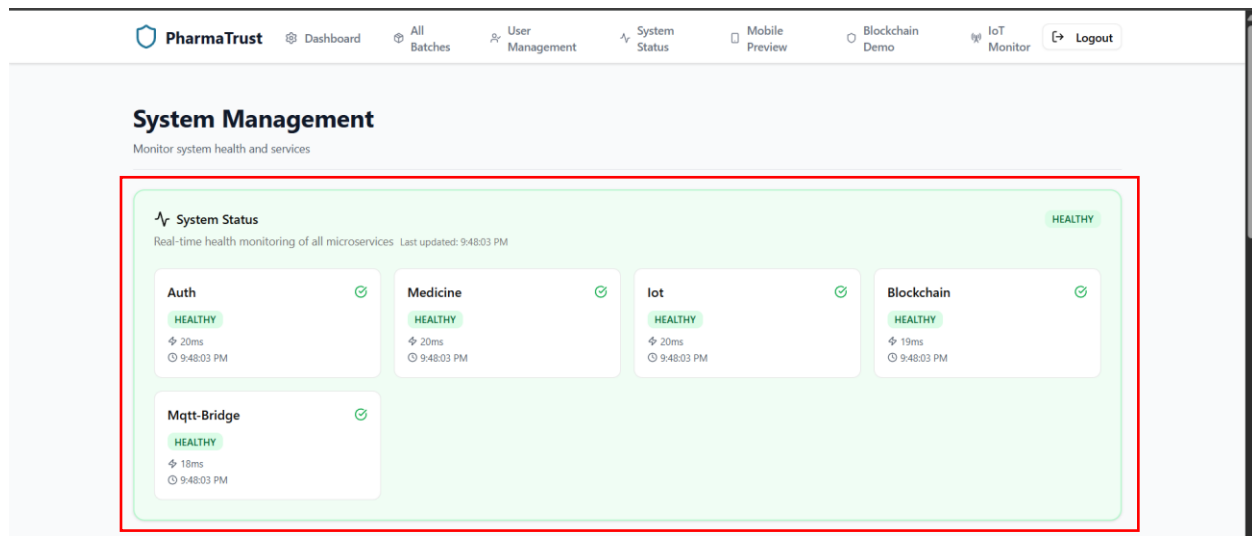

Figure 15. Shows the System Status feature with all services healthy.
- **Green background** – All services operating normally (Figure 15)